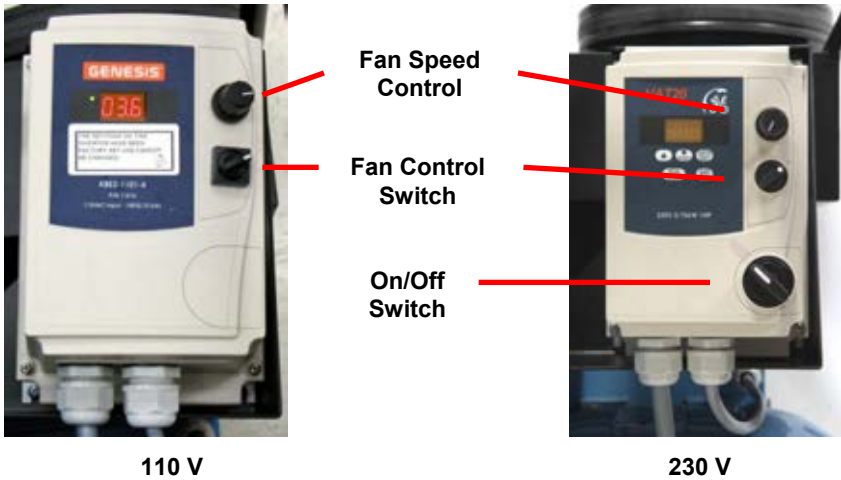

Figure 1. 110V and 230V Fan Speed Controllers
5. Make sure the Fan Control Switch on the Fan Speed Controller is in the **OFF** position and the multi-turn Fan Speed Control potentiometer is fully turned counter-clockwise using the pictures of the VFD in Figure 1 as a reference. Plug the cord into the PANDA unit as shown in Figure 2 and Figure 3. Then connect the other end of the cord to a suitable electrical supply.